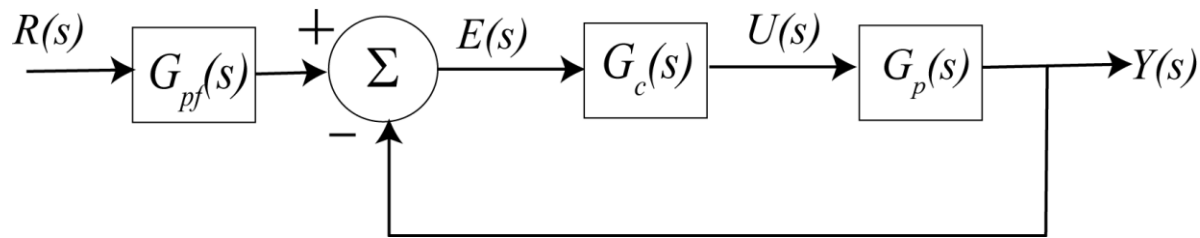

Figure 10: Basic feedback control loop with a prefilter
Sometimes when we use feedback control, we need to be able to adjust the steady state output value. This is very apparent in our first order system when we used a proportional controller. In that case, we were able to significantly change the settling time of the system, but the output did not equal the input. What we need is a proper scaling, and this is usually called a **prefilter**. Figure 10 shows our basic feedback loop with a prefilter. The prefilter can either be a transfer function or a constant. In this lab we will assume the prefilter is a constant, so $G_{pf}(s) = G_{pf}$. The purpose of the prefilter is to take the reference signal and scale it so that the input to the system matches the output of the system.
1. Modify the **closedLoop.mdl** Simulink model you created to match Figure 10 by adding a transfer function block in series with the input `rt`. The numerator is `num_Gpf` and the denominator is `den_Gpf`.